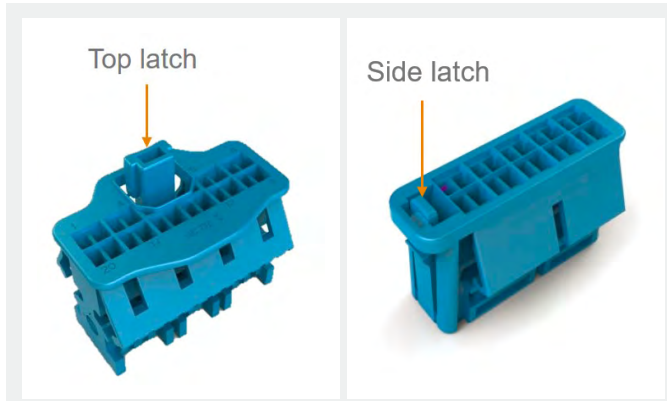

Figure 4: NanoMQS housings - top latch and side latch version
NanoMQS housing components (headers and connectors) are made from high-grade thermoplastic. There are two versions, Top Latch (TL) and Side Latch (SL), both of which are available in a perpendicular or parallel orientation to the PCB. A notable difference between the two versions is the position of the locking device of TL version, which is located centrally on top of the housing (Figure 4).
On the slightly more compact SL version, the locking device is located at the side of the housing (Figure 4). With the SL version, the device can be locked at up to 20 positions without the need for reinforcement ribs. In addition, the plastic locking and latching profiles have compact geometries. For example, the overlap between the connector and header fronts has a wedge shape that ensure a smooth guiding-in of the two halves during connector mating. When fully mated, the overlap results in a strong, positive connection formed by two wedge shapes securing each other.